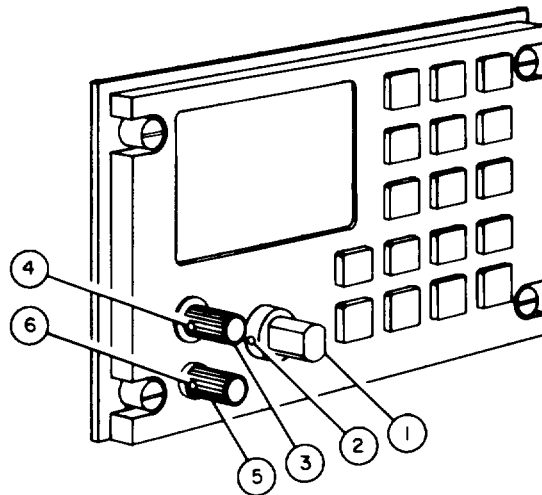

Figure 3-7. C-11245/U Control-Display Panel Knobs
Refer to figure 3-7. The SET knob (1), the FUNCTION SELECT knob (3), and the SQL knob (5) with their respective set screws (2), (4), and (6) are all removed and installed using the same procedure.